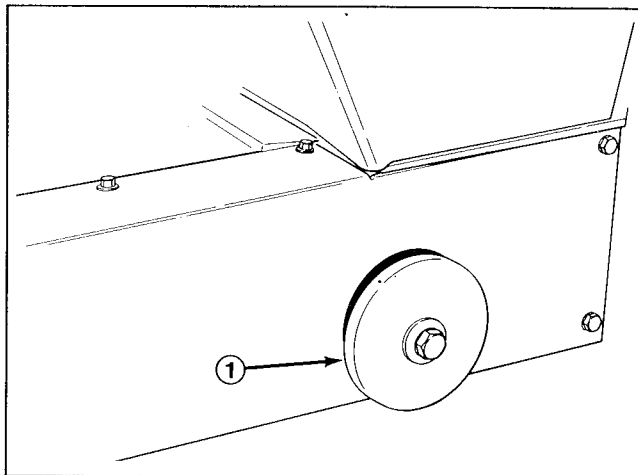

Figure 8
10. Loosely install idler cover to sprocket with fasteners removed (Fig. 8)